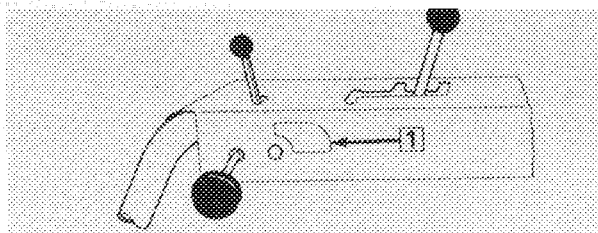

Figure 9
19. Secure decal on control panel around hole for switch (Fig. 9).